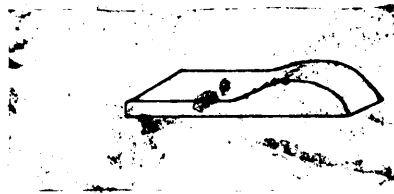

Figure 4.
4. Scarfing should be done in all types of welding. (Figure 4) shows scarfing on a flat piece of stock.